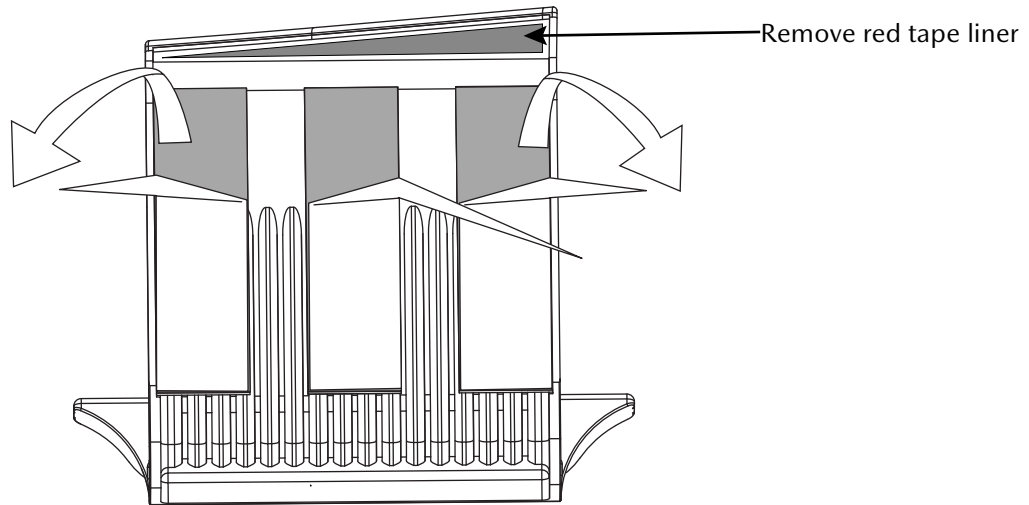

Figure 5
- B. Fully remove the red tape liner from the top surface (Figure 5).